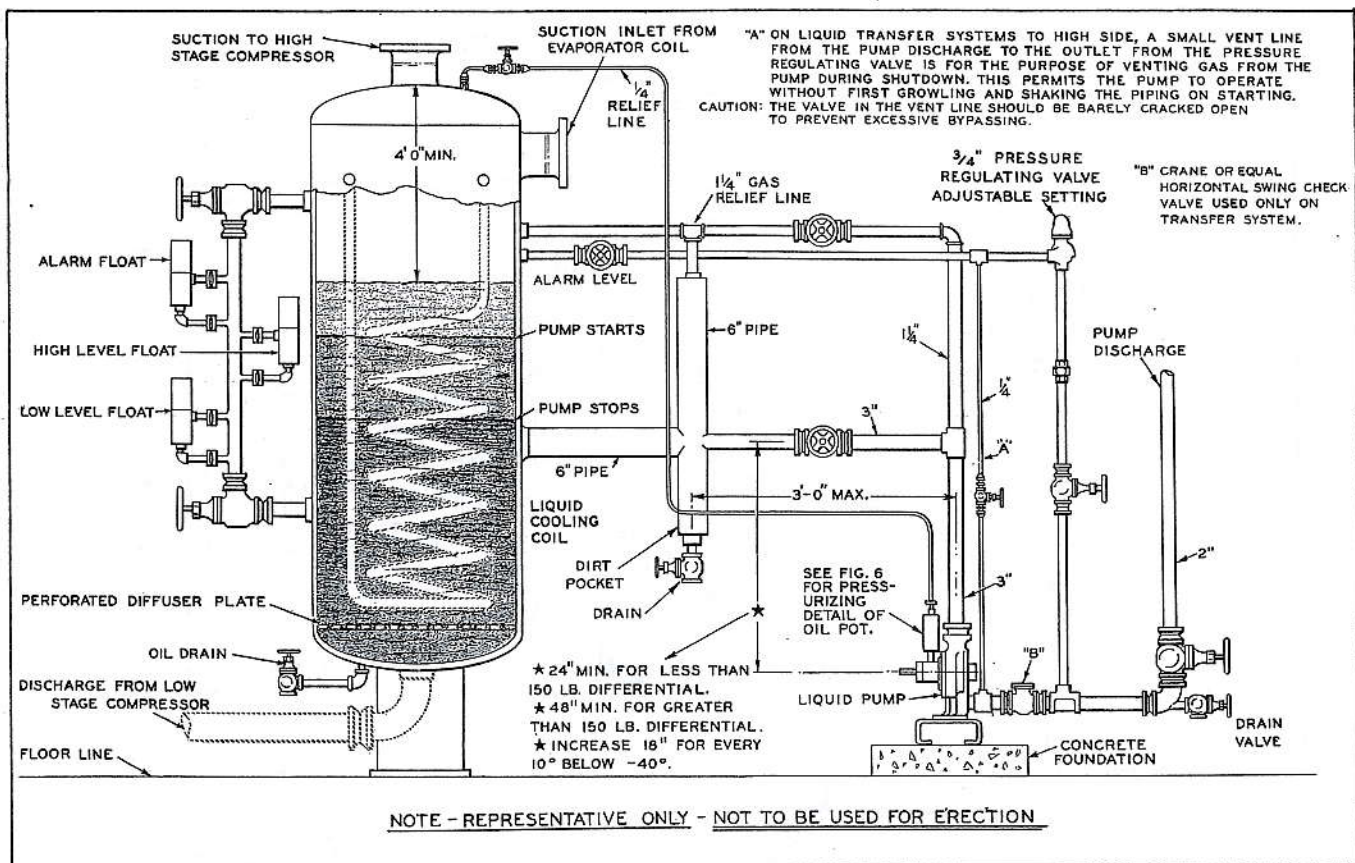

Fig. 5 - Piping Arrangement, When Vertical L. P. Receiver is Used As Interstage Gas Cooler or Liquid Cooler
Fig. 5 shows the piping arrangement which should be used when the pump is used with a vertical low pressure receiver which is equipped with a liquid cooling coil or when the low pressure receiver is also being used as an interstage gas cooler.
- (h) When these pumps are used with a vertical receiver having liquid cooling coils or if the receiver is also used as an interstage gas cooler, the pump should be connected as shown in Fig. 5.